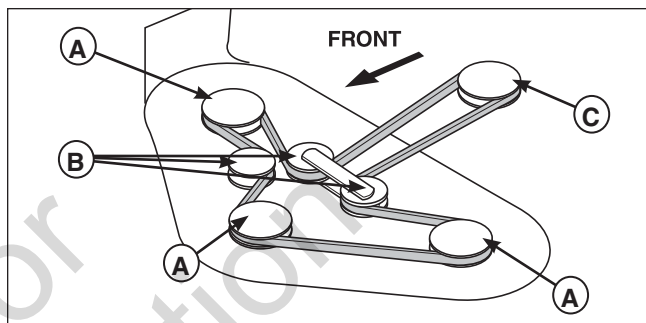

Figure 46. Mower Belt Routing
2. Remove the old drive belt and install the new one as shown in Figure 46. Make sure that the V-side of the belt runs in the pulley grooves of the spindle pulleys, and that the back of the drive belt must ride against the back-side idler pulleys (B).
3. Install the belt on the PTO pulley, the spindle pulleys and all the idler pulleys except the stationary idler pulley (B, Figure 46). Carefully rotate the breaker bar COUNTER-CLOCKWISE and install the belt on the stationary idler pulley.